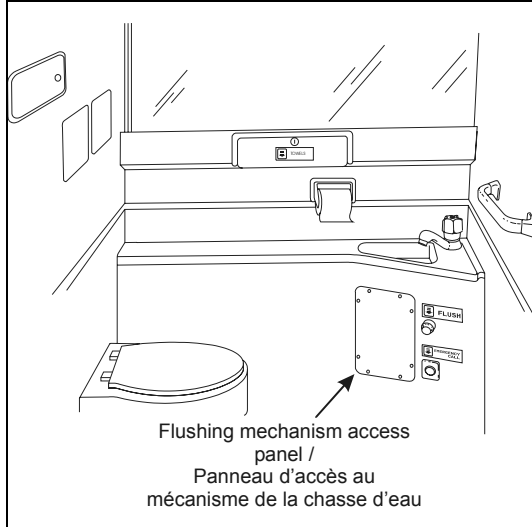

FIGURE 1 : TOILET COMPARTMENT H3 (XL2 SIMILAR)
1. Inside the toilet compartment, remove the flushing mechanism access panel (figure 1) and remove the existing pneumatic temporizer on the vehicle. Disconnect circuit 14 & 14A from the pneumatic temporizer.
1. Inside the toilet compartment, remove the flushing mechanism access panel (figure 1) and remove the existing pneumatic temporizer on the vehicle. Disconnect circuit 14 & 0 from the pneumatic temporizer.